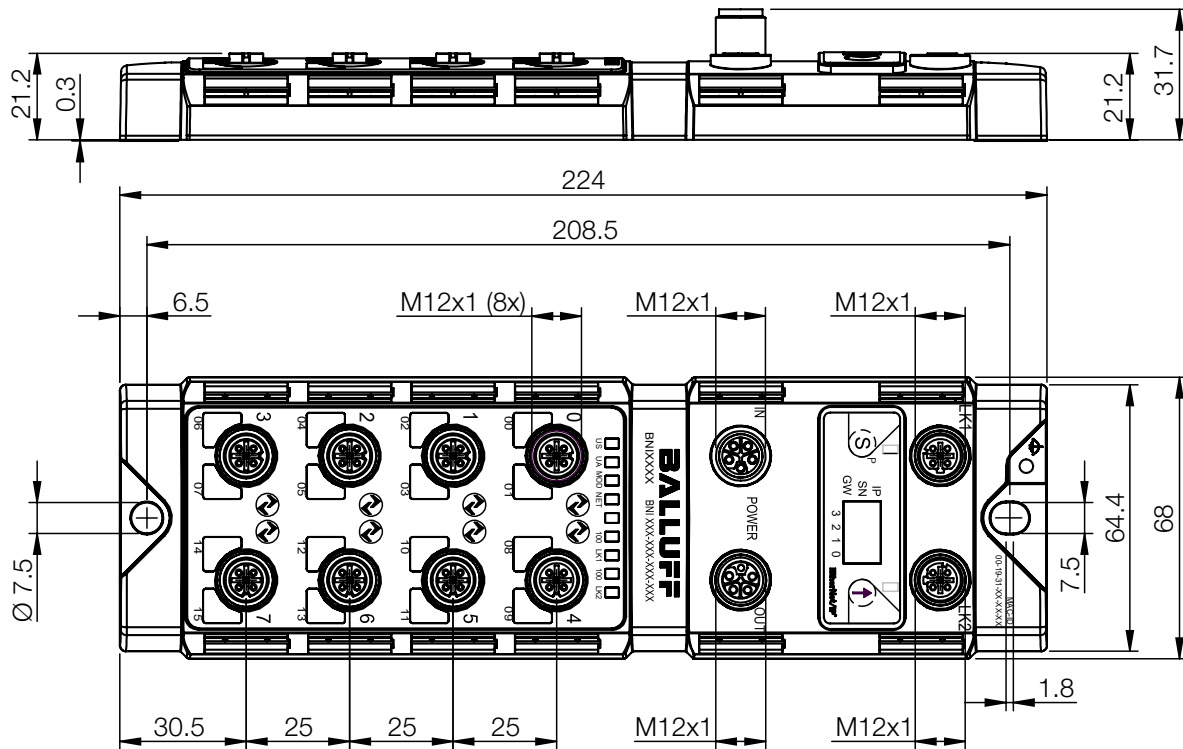

Fig. 4-1: Dimensions, design and function
**i** For dimensions, see Fig. 4-1 on page 8.